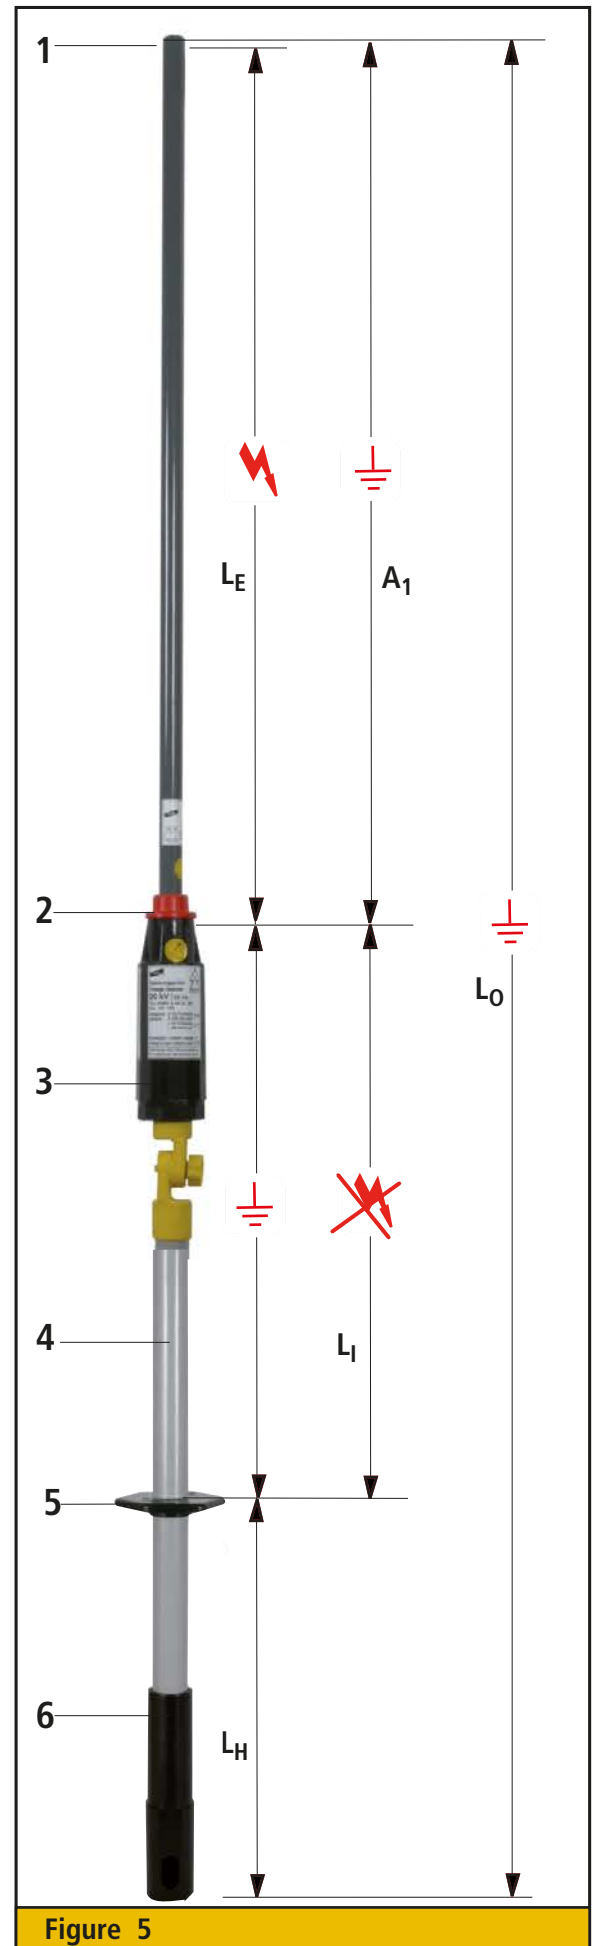

Figure 5
- The insulating element of the modular PHE III voltage detector may only contact earthed parts of the installation (see Fig. 5).
- Only the section from the top end (contact electrode) to the red ring (2) of the modular PHE III voltage detector may contact live and earthed parts of the installation (see Fig. 5).
- The entire modular PHE III voltage detector may contact earthed parts of the installation (see Fig. 5).